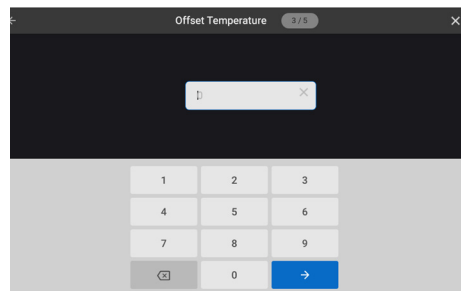

Figure 30: New Recipe Offset Temperature
9. Input the recipe offset temperature and touch the blue arrow button to continue (Figure 30).